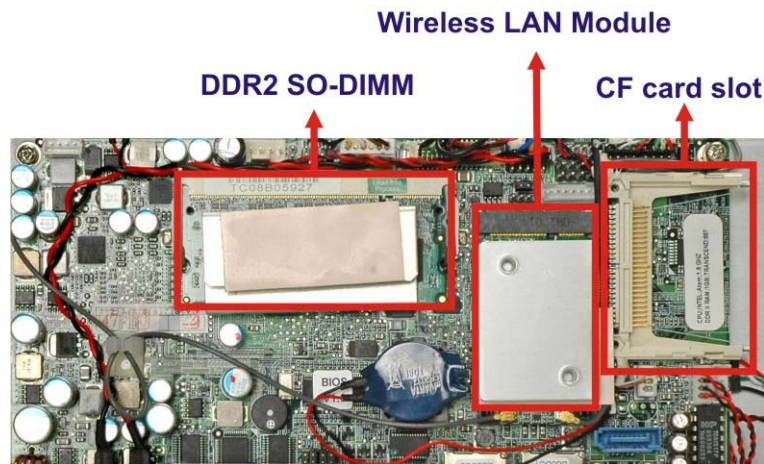

Figure 3-1: Replaceable Components
Step 1: If the components of the AFL-08B-N270 fail they must be replaced. Components that can be replaced include (see **Figure 3-1**):